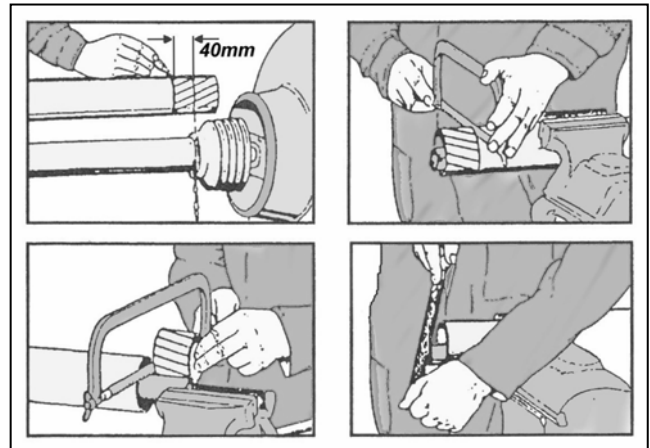

Figure 4
1. Shorten outer plastic tube to 40mm less than the shortest envisaged shaft length as illustrated (Fig.4).